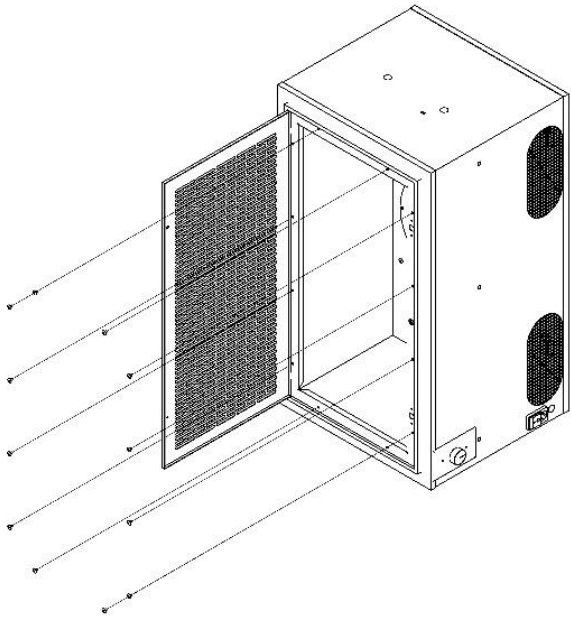

Figure 14
6.) Remove (12) M4 screws holding insert in place. Use a 2.5 mm Allen wrench. See Figure 14.
- 22.) Place insert back into housing. Attach with (18) M4 screws. See Figures 14 and 15. Unit may need to be placed on its back side to evenly align screws. Tighten screws in a crisscross pattern to prevent metal from binding.